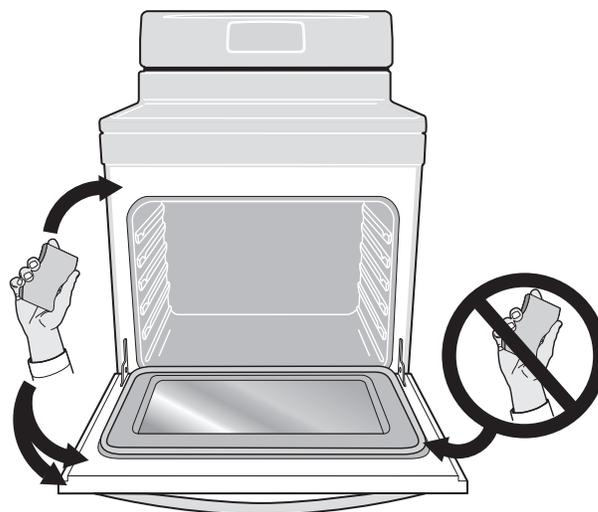

Figure 36: Areas to clean and to avoid
- Do not use oven cleaners or oven protective coatings in or around any part of the oven interior. Clean any soil from the oven frame, the door liner outside the oven door gasket, and the small area at the front center of the oven bottom (See Figure 36). These areas heat sufficiently to burn soil on. Clean using soap and water prior to starting Self Clean.